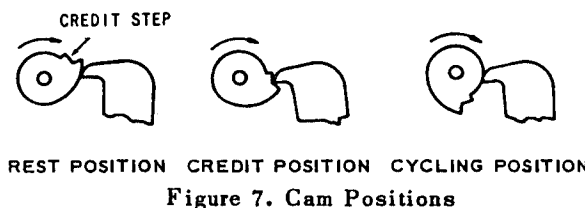

Figure 7. Cam Positions
The selection switches have three conditions of operation corresponding to the 3 positions of the cam shown in Figure 7 and are
1. Place the cam in the Credit Position (Figure 7).
1. Turn the motor manually until the latch bar lever drops to the credit step of the cam and then reverse the direction until the point of the lever is against the vertical part of the cam as shown in Figure 7.